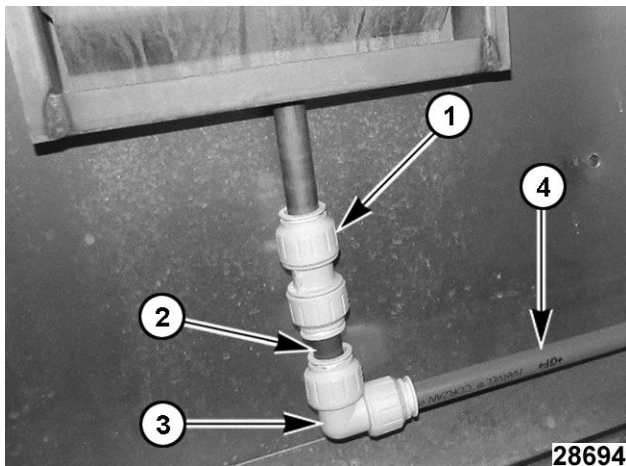

Fig. 46
3. Connect Push-to-Connect (PTC) coupler (1, Fig. 46) to drain pan tube.
4. Insert 5" tube (2, Fig. 46) into coupler.
5. Attach PTC elbow (3, Fig. 46) to other end of 5" tube.
6. Connect drain tube with pre-attached elbow (4, Fig. 46) into PTC elbow.